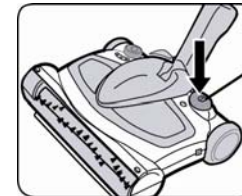

Fig. 7
2. Push the **On/Off** switch to operate the unit. To turn off, press switch again. (Fig. 7)